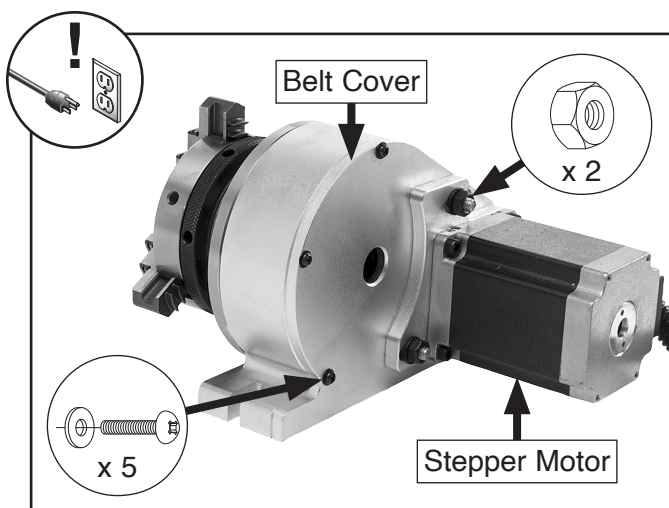

Figure 25. Location of belt cover fasteners.
3. Loosen (2) hex nuts on rear of rotary table (see **Figure 25**) a half turn to release belt tension.
4. Remove (5) Phillips head screws and flat washers securing belt cover (see **Figure 25**), then remove cover with stepper motor still attached.